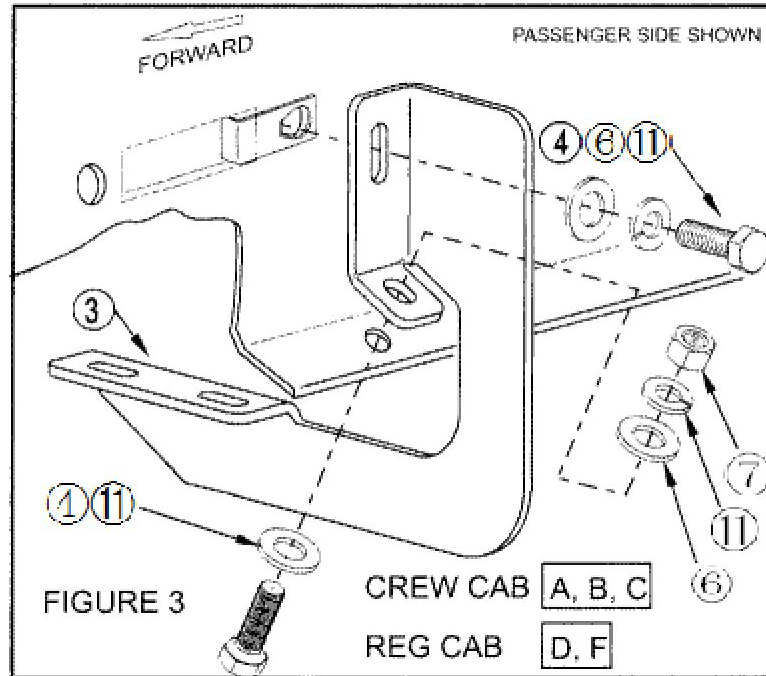

FIGURE 4 Slip M6 Square Head Bolts into channel
5. Insert square head bolts as shown.(3 per slot,6 per board),**SEE FIG 4**.